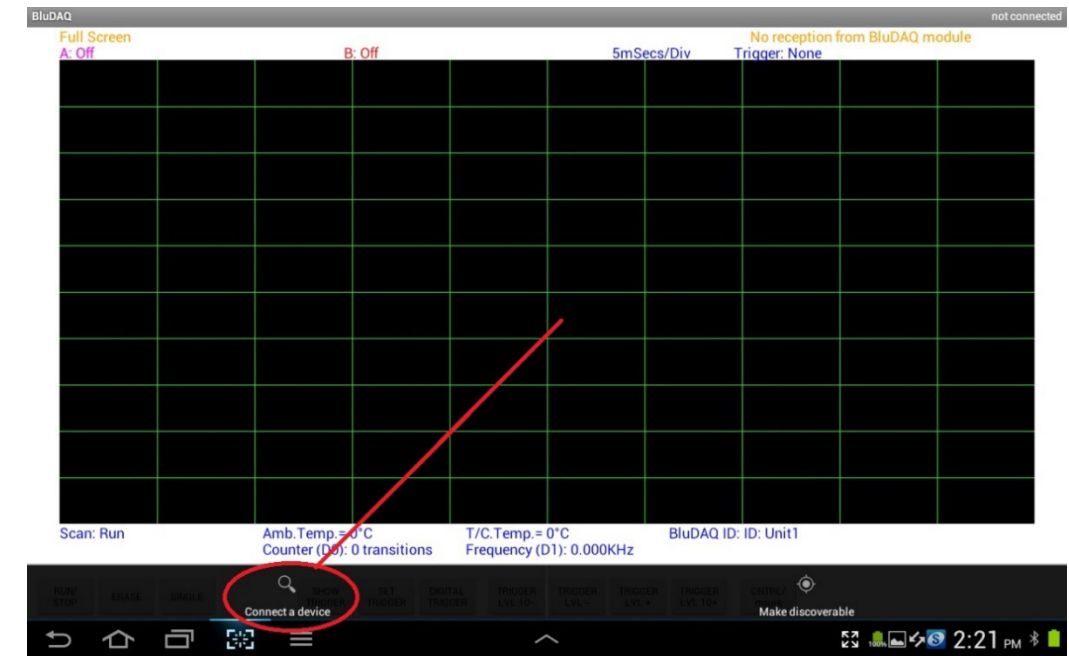

Figure 5
18. Then select “Connect a device” in the dialog that pops up along the bottom of the display as in Figure 5